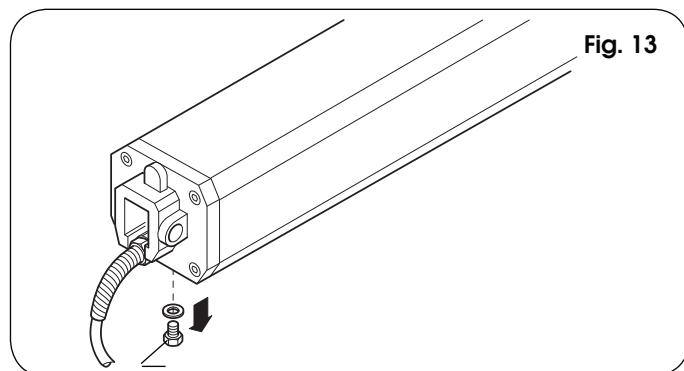

Fig. 13
- Remover o parafuso de respiro (Fig. 13, ref. ).